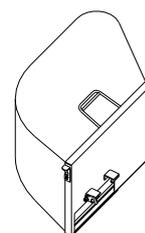

FIG 2
- a) Grass catcher: 100L, see FIG 2